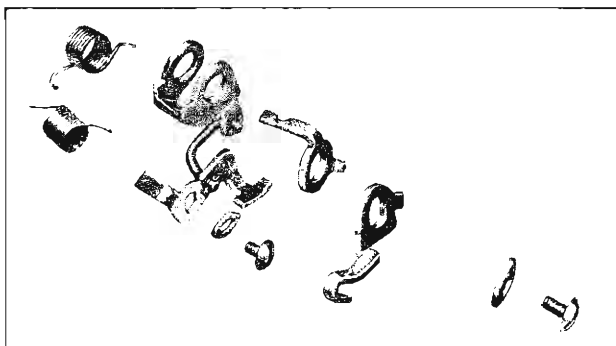

Fig. 84—Throttle Shaft Levers
2. Install primary throttle shaft dog levers and spring (fig. 84).